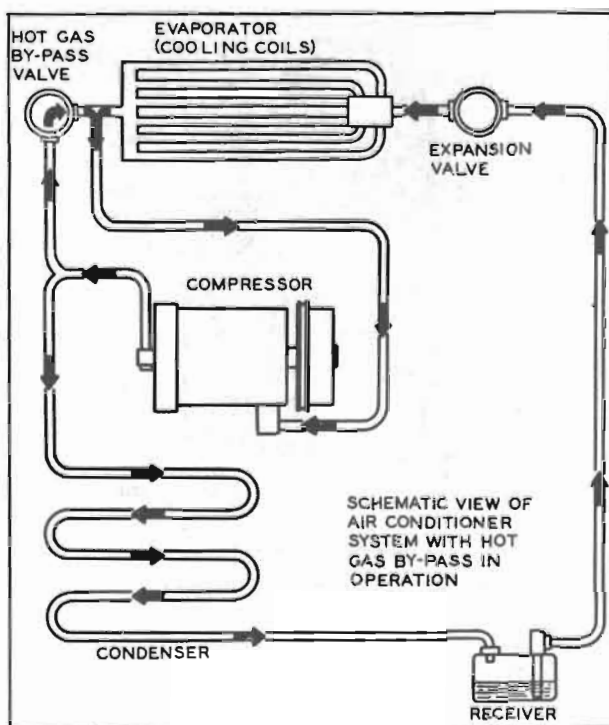

Figure 11-19—Air Conditioning System—Schematic
6. *Hot Gas By-pass Valve.* Figure 11-19 is a schematic view of the operating refrigeration cycle using the hot gas by-pass valve and showing this valve's relative position in the system.